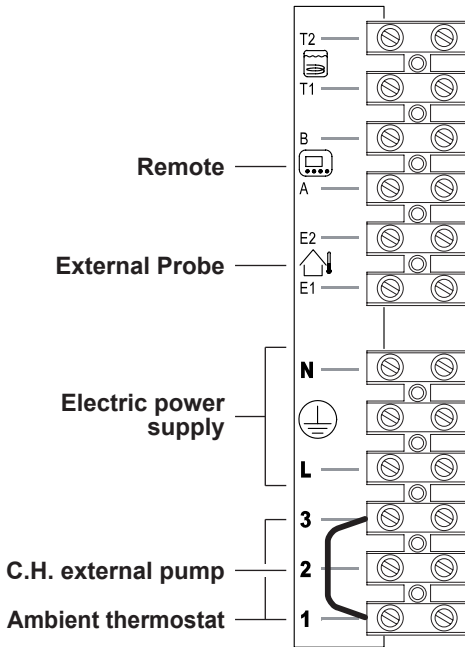
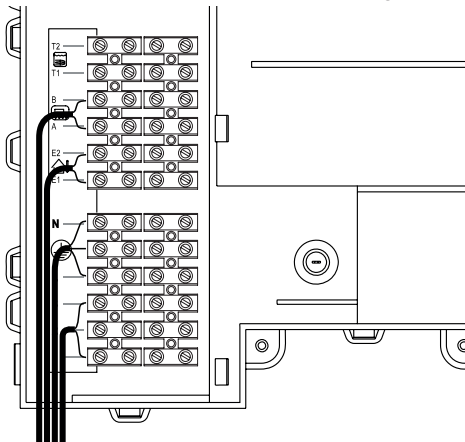
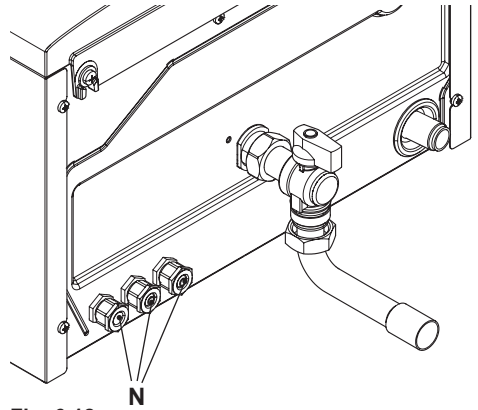

Fig. 6.16
Fig. 6.17
Fig. 6.18
- Connect the electric power supply cable coming from the fused spur isolation switch to the power supply terminal block of the boiler Fig. 6.16 keeping the same connections for the live (brown wire) and the neutral (blue wire). External 3A fuse or fused plug with same current rating is recommended.
The route of the boiler and ambient thermostat's electric power supply cable or wires must follow the route indicated in Fig. 6.17.
Allow the cables to exit the boiler by using the relevant cable clamps "N" (Fig. 6.18).
Use the clamps indicated in Fig. 6.16 to connect the ambient thermostat.
Use the ambient thermostat's clamps indicated in Fig. 6.16 and Fig. 6.17. to connect the zone valve Insert the electric cables of the zone valve's micro switch contacts in clamps "1 and 3" of the ambient thermostat's terminal block as in Fig. 6.17.
The route of the boiler and ambient thermostat's electric power supply cable or wires must follow the route indicated in Fig. 6.17. Allow the cables to exit the boiler by using the relevant cable clamps "N" (Fig. 6.18).
The route of the external probe's connection wires must follow the route indicated in Fig. 6.17.
The route of the remote control cable must follow the route indicated in Fig. 6.17.